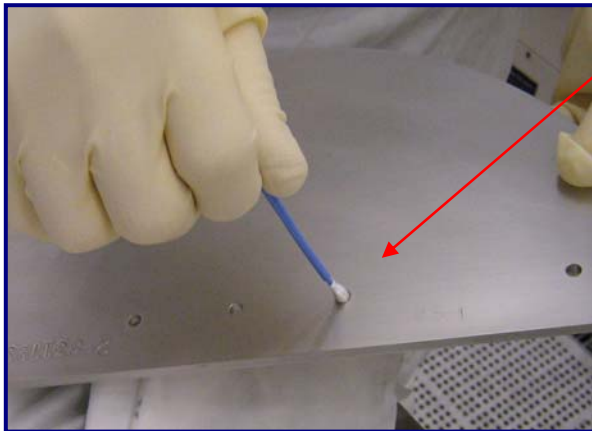

Fig 12:
Step 10: Dampen the HT1511FC MiraSWAB® with IPA and wipe out the hard to reach areas, such as o-ring grooves and screw holes (See Fig 12 & 13)